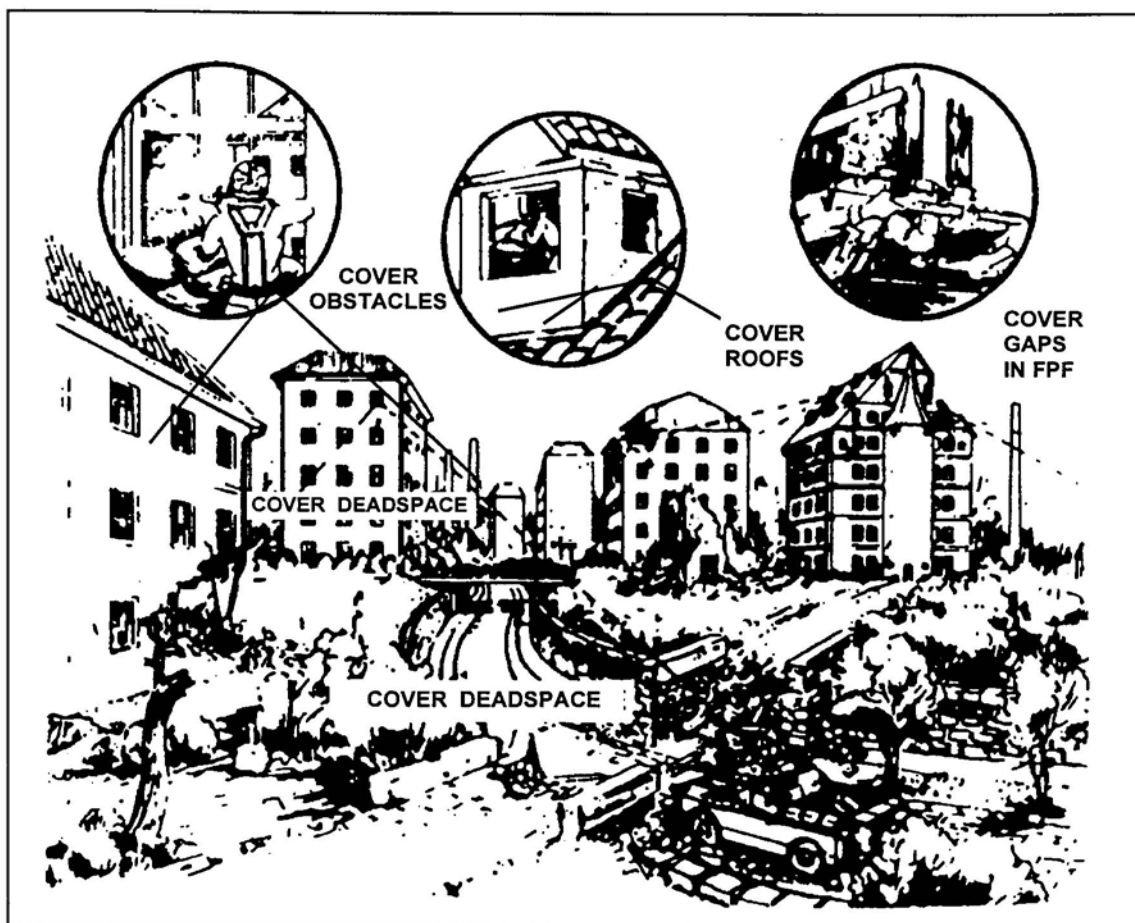

Figure 8. Sniper positions.
- (1) Sniper positions should be on or near the top of the building being defended to allow greater fields of fire (Figure 8).